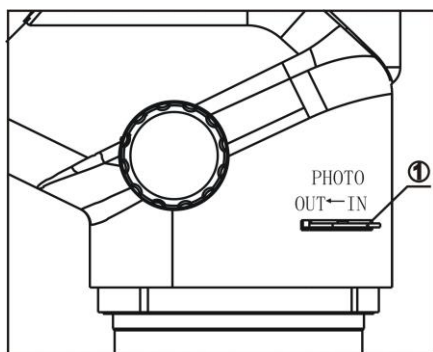

Fig 8
- (1) To observe through binocular, please turn the light path selection lever ① to "OUT". (Fig 8)
- (2) If turn the light path selection lever ① to "IN", (Fig 8) , you can observe through both binocular and trinocular.